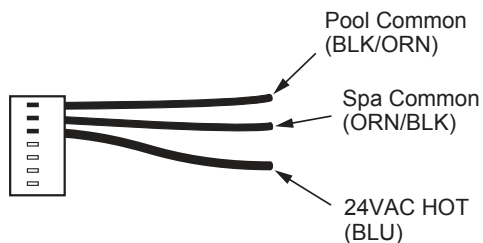

Figure 53. 7-Pin Remote Interface Harness
- On the “Remote Interface Harness”, connect the BLUE wire to one side of the “REMOTE” switch and connect the other side to either the ORANGE/BLACK wire for “SPA” operation or the BLACK/ORANGE wire for “POOL” operation. See **Figure 53**.
- On the “Remote Interface Harness” connect the BLUE wire to one side of the “REMOTE” switch and connect the ORANGE/BLACK wire for “SPA” operation and the BLACK/ORANGE wire for the “POOL” operation. See **Figure 53**.